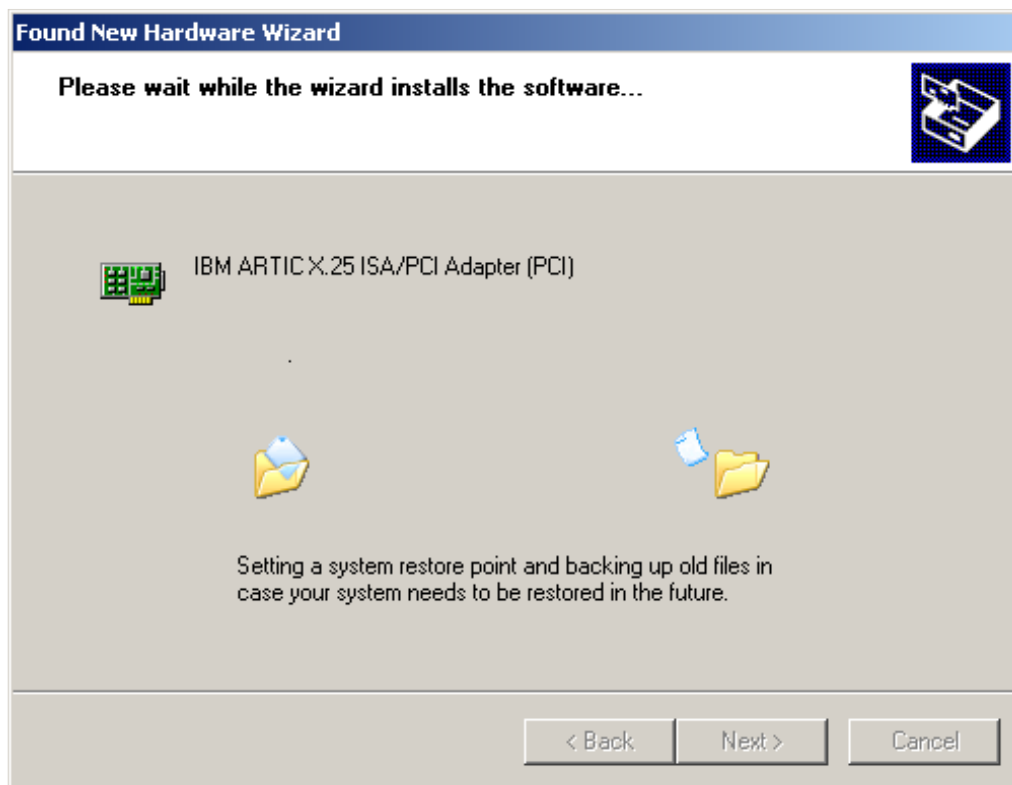

FIGURE 182. Hardware Wizard installation in process
12. The wizard will display the screen shown in Figure 182 as it installs the proper driver files.